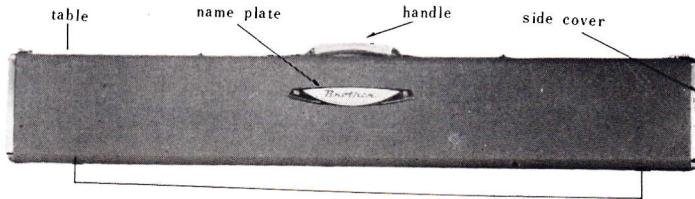

Fig. 1
1. Place your knitter on the edge of any firm and flat table. Handle of carrying case is opposite from you. (See Fig.1)